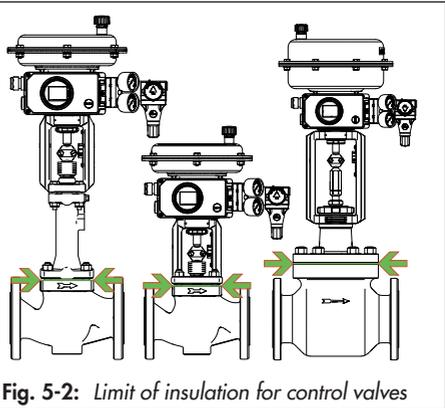

Fig. 5-2: Limit of insulation for control valves
- Only insulate control valves up to the bonnet flange of the valve body (see Fig. 5-2). This also applies to versions with bellows seal or insulating section at medium temperatures below 0 °C (32 °F)
When the actuator is mounted to the valve using a crossbeam (form B, Fig. 5-2), the actuator is fastened to the valve bonnet using a central nut.